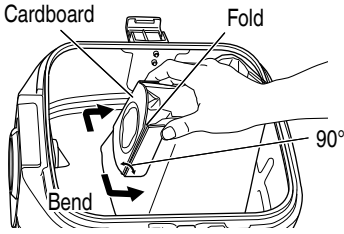

Fig. 28
- (2) Before attaching the filter to the appliance, bend the two folds in the cardboard approx. 90° in the direction of the arrow. (Fig. 28)